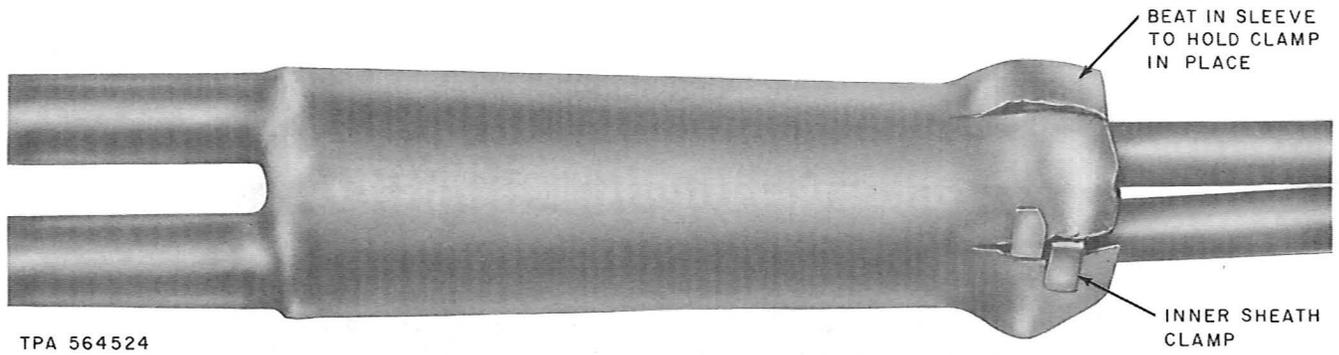

Fig. 5—Installed Inner Sheath Clamp
3.06 Place a large size inner sheath clamp underneath the tabs as shown in Fig. 5 and beat in the sleeve to hold the inner sheath clamp in place.